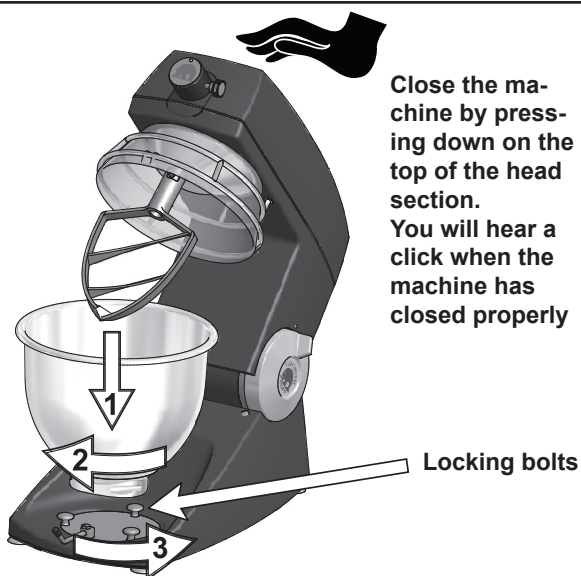

Fig. 5 Place the bowl in the machine and twist it onto the locking bolts and turn the locking arm anticlockwise.
D. Place the bowl in the mixer (1), turn it to be fixed in the locking bolts (2) and turn the handle (3) (fig. 5).